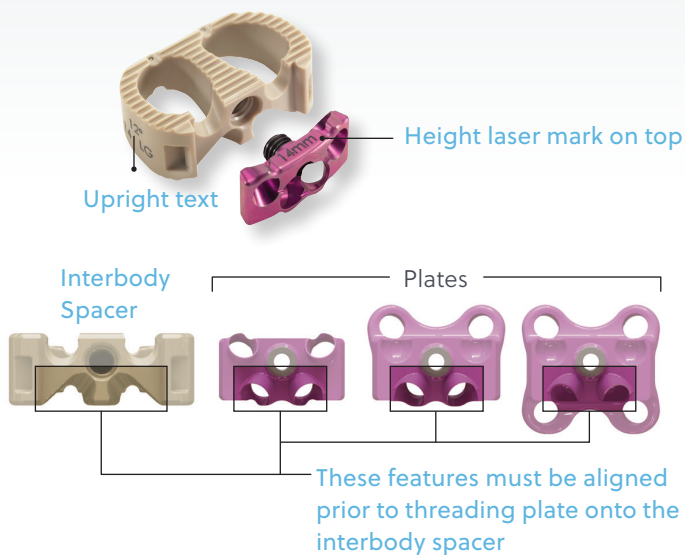

Figure 4:
- At the back table, align the plate and interbody spacer such that the set screw on the plate is positioned straight into the PEEK-OPTIMA spacer prior to threading it in (**Figure 4**).